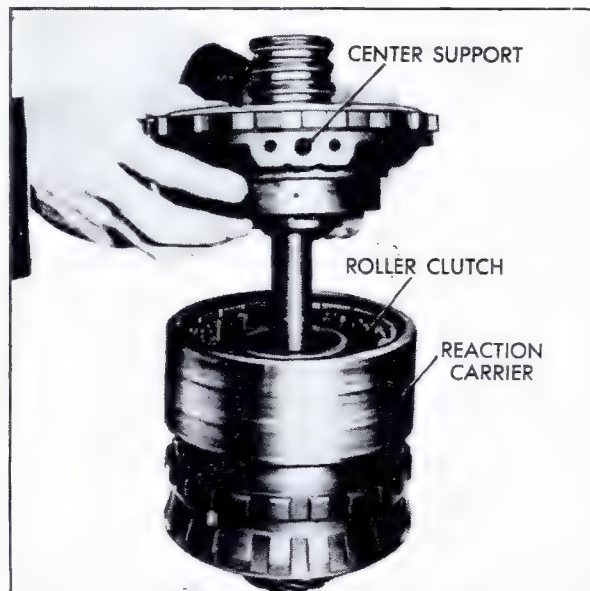

Fig. 7-192 Installing Center Support in Reaction Carrier
i. Install center support assembly into roller clutch in reaction carrier, Fig. 7-192.